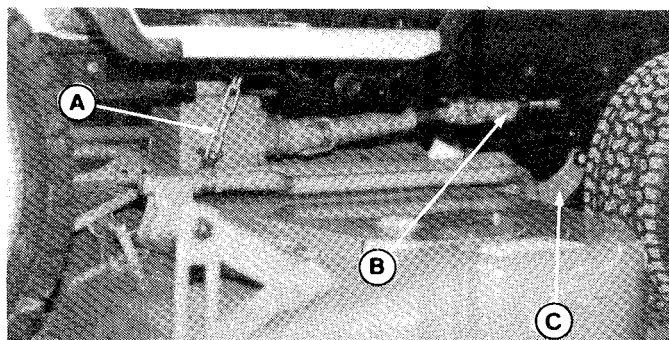

Figure 3A. **A. Chain** **B. Drive Shaft** **C. Hitch**
7. Figure 3A shows mower installed, as viewed from right hand side